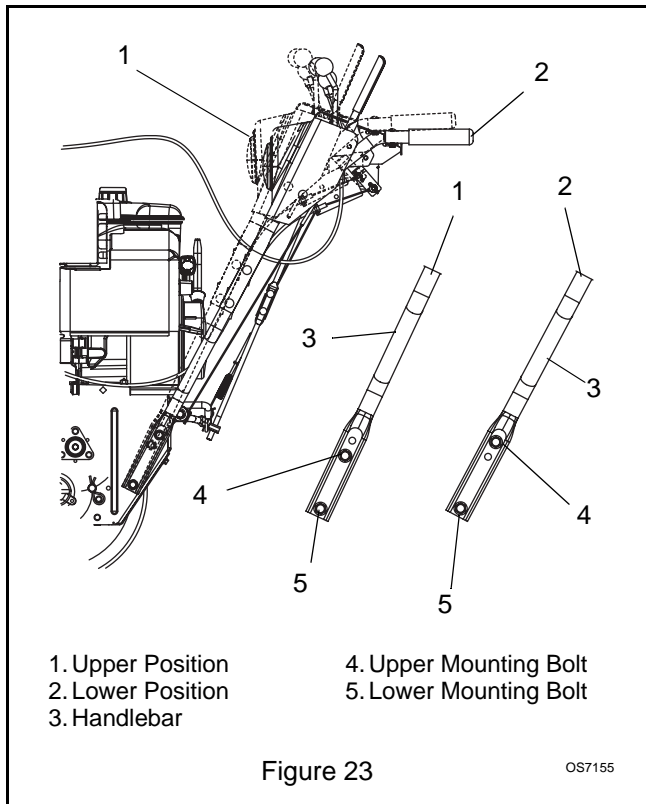

Figure 23
5. Secure handlebar to frame with hardware removed in step 4 using the different hardware locations shown in Figure 23.